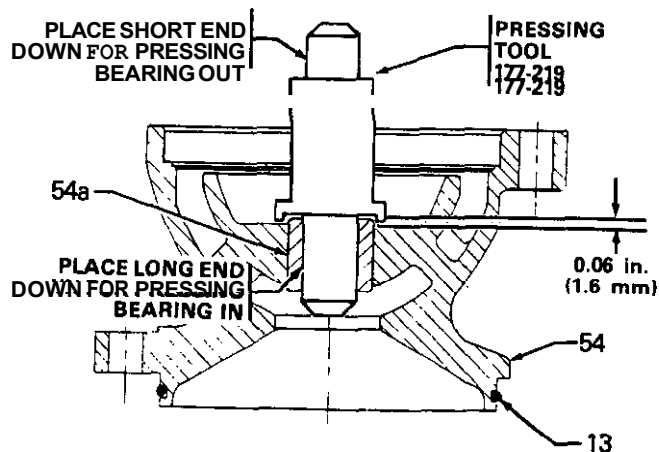

Fig 12
- a. Use the short-nippled end of tool 177-219 to press out the bearings (54a) from all bowls (54) and the intake bowl (53). See Fig 12.